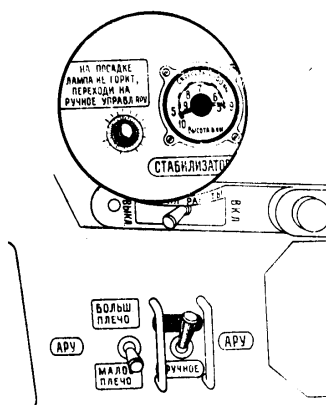

Fig.5. How to check the stabilizer in "Автомат" position.
- set the selector switch in "Автомат" position, in this case the indicator pointer will gradually return to extreme left and the green light will show (Fig. 5).